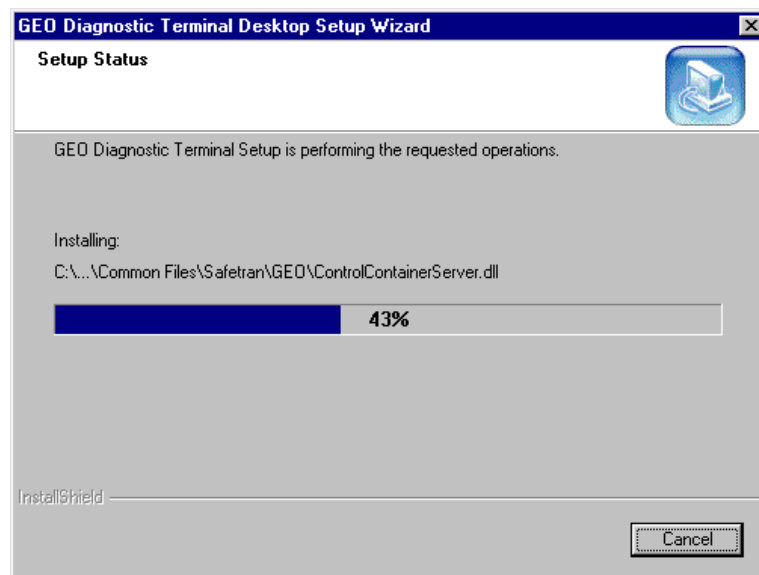

Figure 2-7
12. After Microsoft® XML Parser is installed, the GDT Installation window is displayed as the GDT utility files are loaded (figure 2-7).